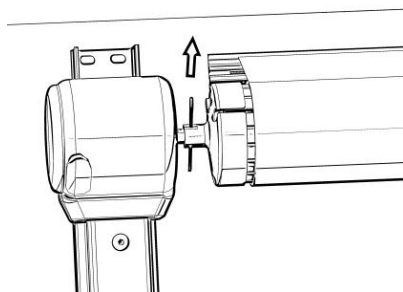

Figure C24
3.9 Remove the safety pin on the non-motor side of the reel(Figure C24) loosen the folding arm, and tighten the fabric roll under tension.